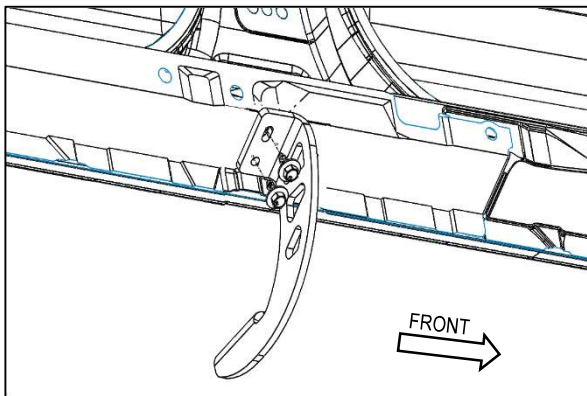

Figure 5
Step 3. Hand start the center bracket to the vehicle by using the supplied M8 SEMS bolts. Figure 5.